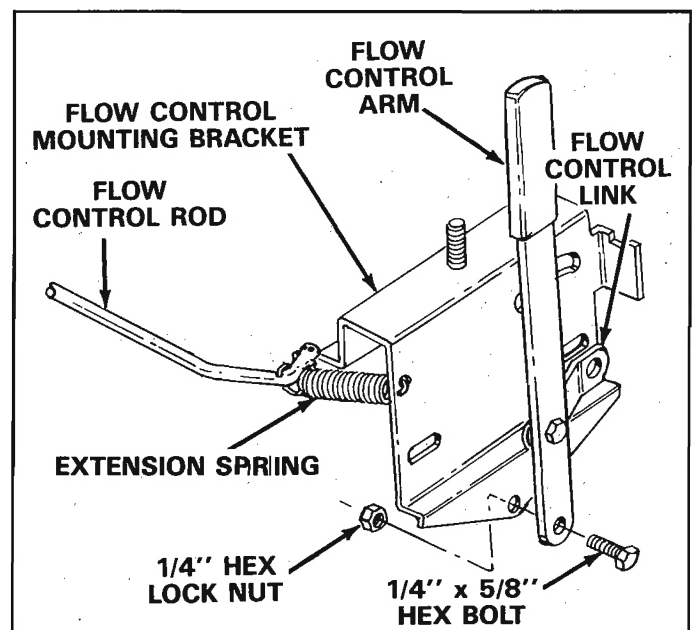

FIGURE 11
18. Assemble the flow control arm to the flow control mounting bracket using one 1/4" x 5/8" hex bolt and one 1/4" lock nut. See figure 11. **DO NOT OVER TIGHTEN, FLOW CONTROL ARM MUST PIVOT FREELY.**
19. Hook one end of extension spring through small hole near bend in flow control rod and the other end through hole in flow control mounting bracket. See figure 11.